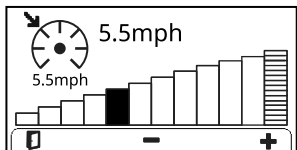

Figure 29
- **Cruise control screen (Figure 29):** Appears when cruise control is engaged (while you are not within an individual menu screen), or when you press the button with cruise control engaged.